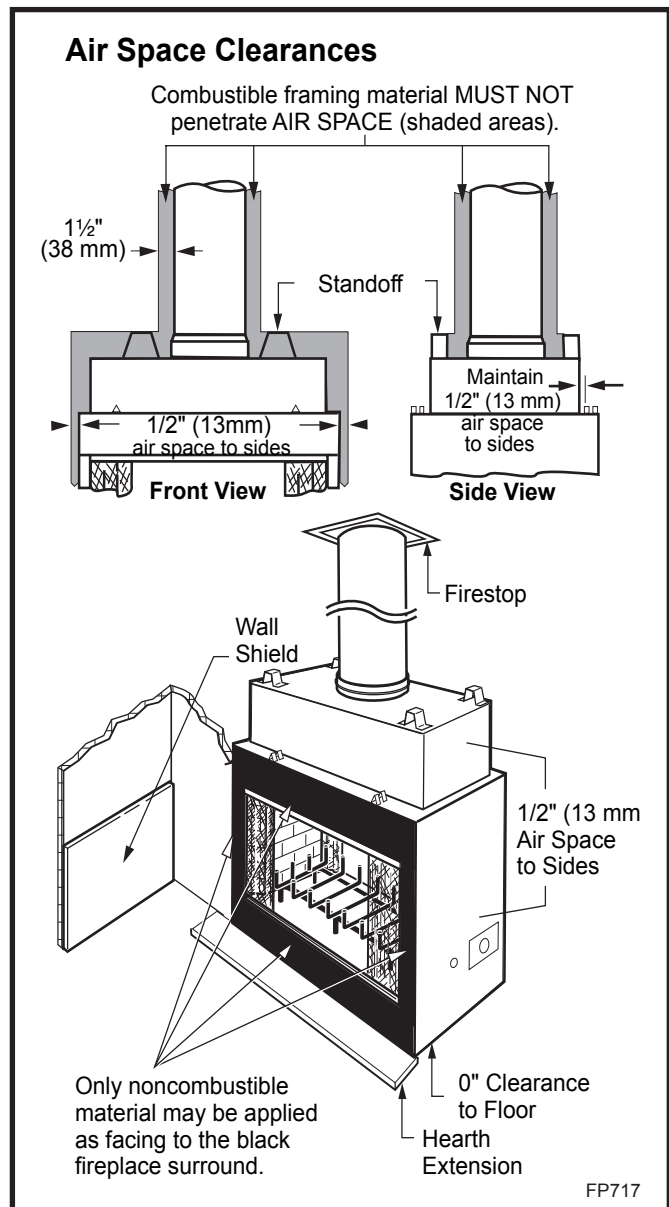
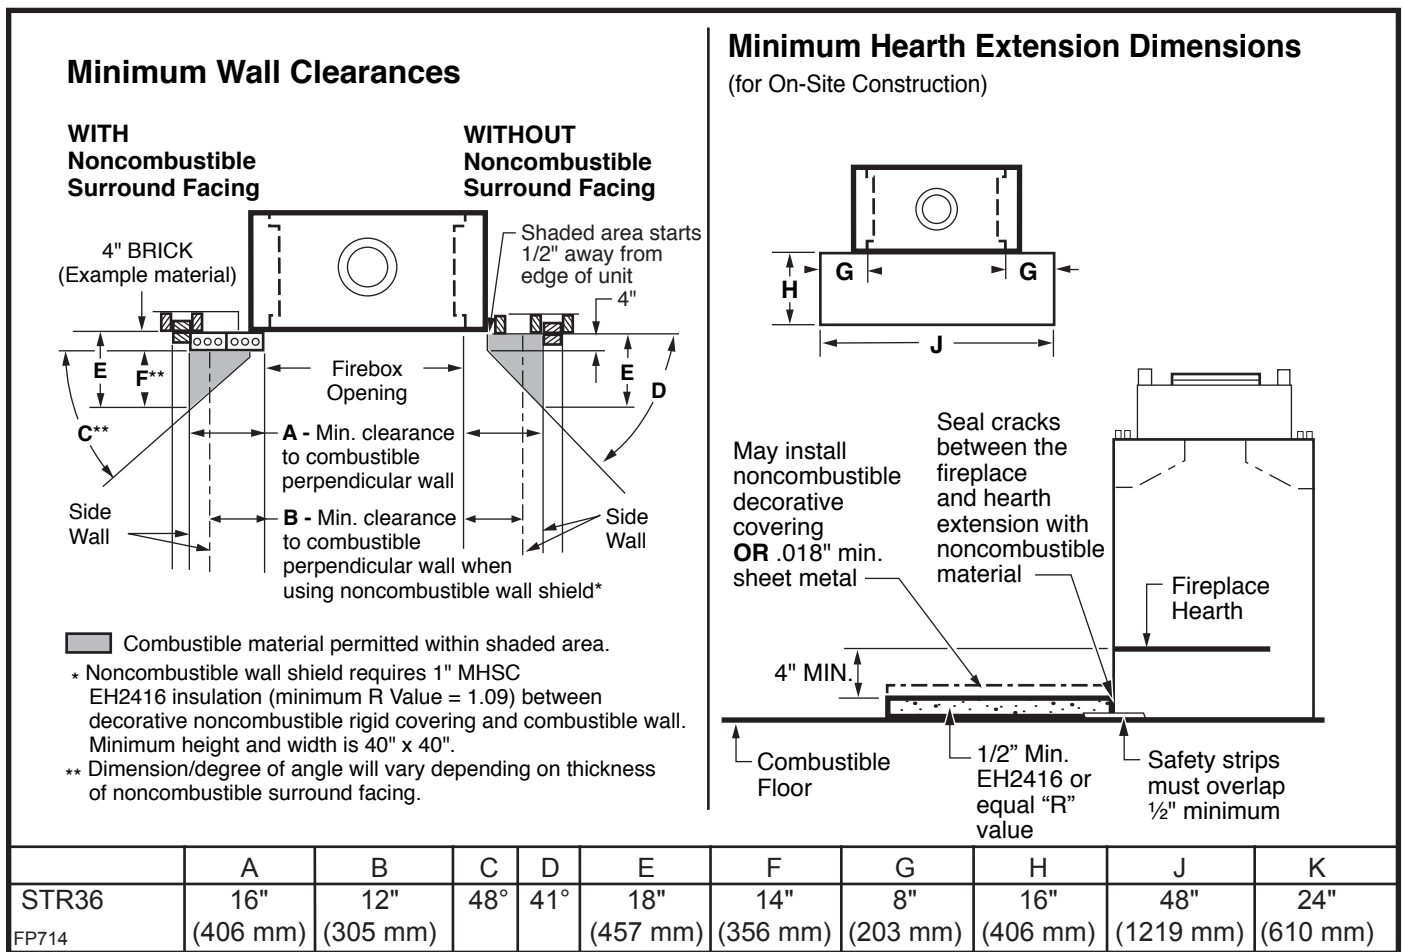

Fig. 20 Minimum clearances to combustibles.
Fig. 24 Combustible side wall protection and hearth extension dimensions.
There must be an air space ($1\frac{1}{2}"$ (38 mm) with SK8 between outermost portion of chimney sections and any adjacent combustible surfaces. (Fig. 20) (Combustible surfaces include burnable materials such as: ceiling members, joists, flooring, combustible insulation and roof structures.)
CAUTION: All joints between the finished wall and the fireplace surround (top/sides) must be sealed with non-combustible material to prevent cold air leakage into the room. Only noncombustible material may be applied to the facing of the fireplace surround. (Black painted area) (Fig. 20)
NOTE: No side wall protection is required for fireplaces installed at 45° to two (2) side walls (corner installation). Adjacent combustible side walls that are within 16" (406 mm) of fireplace opening must be protected with a specifically built wall shield as described in Figure 20 & 24. Often a decorative surround or vertical portion of the mantel is desired. If this is constructed of any combustible material, it must be within the safe zone indicated in Figure 24.
All joints (top, bottom and sides) where wall or decorative facing material meets fireplace surround must be completely sealed with a noncombustible material. (Figs. 20 and 24)
The special wall shield design described in Figure 20 is an alternate method of adding protection to side walls. Rt must = 1.85 minimum.
A hearth extension is required to protect a combustible floor in front of the fireplace. Refer to Figure 24 for minimum dimensions and mounting detail.
The hearth extension described in Figure 24 must be a durable noncombustible material with a minimum (total) Rt value of 1.09; refer to Figure 25 for examples. The overall height (above a combustible floor), depth and width must be as indicated, with the extension centered to the fireplace opening.
The top of the insulation material must be covered with a noncombustible decorative covering or a piece of .018" minimum sheet metal, to protect hearth extension material. (Fig. 24)
Secure the hearth extension to the floor to prevent shifting, using trim molding or other similar means at three (3) outer edges. Seal crack between the fireplace hearth and hearth extension with a noncombustible material. (Figs. 24 and 26)
WARNING: HEARTH EXTENSION MUST BE INSTALLED IN ACCORDANCE WITH FIGURES 24 AND 25.